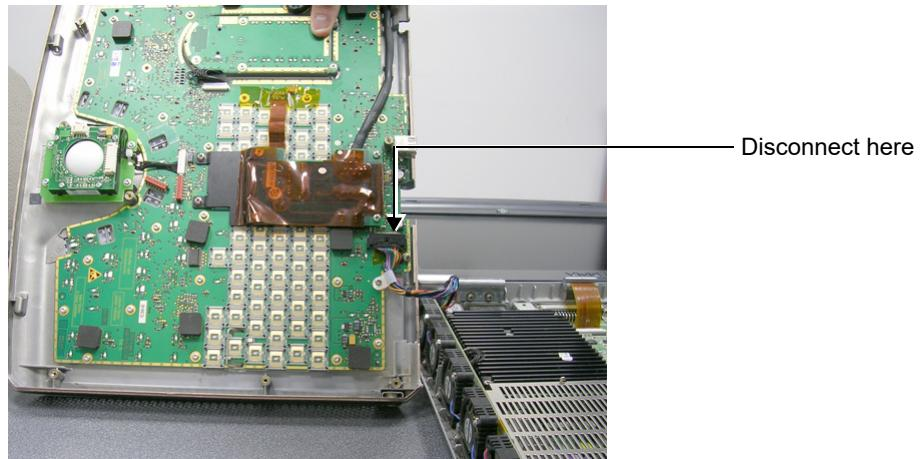

Figure 8-8 Disconnecting the Control Panel/Keyboard Cable
- 5) Lift the Control Panel and Keyboard up to gain access to the cable connector underneath and disconnect the control panel/keyboard cable from the system as shown in Figure 8-8.
- 1) Stand the replacement Control Panel and Keyboard beside the Vivid i n system and tilt it on its side to gain access to the cable connector underneath. Re-connect the keyboard/control panel cable from the system to the cable connector (refer to Figure 8-8, above).
- 1) Lift the Control Panel and Keyboard up to gain access to the cable connector underneath and disconnect the keyboard/control panel cable from the system - refer to Figure 8-8 on page 8-7 .